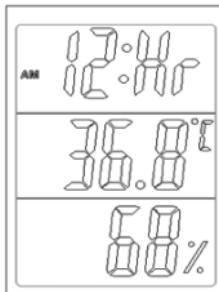

Fig. 2
4. Press **MODE** button to advance to *12- or 24-hour* mode and use the **ADJ** button to change value (see Fig. 2).